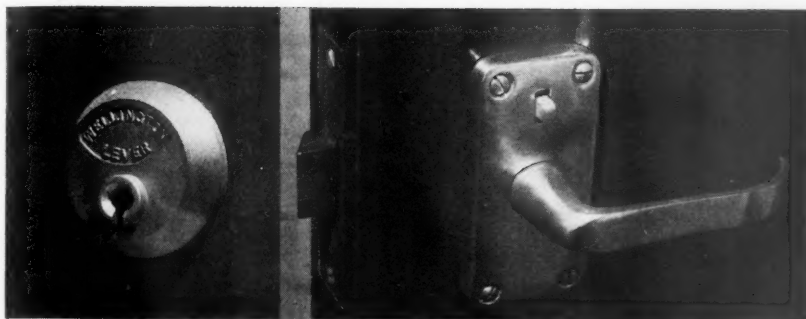

Fig. 12. New type of cylinder lock for entrance doors. This is burglar proof and has an internal lever handle matching the other door furniture
**Door Furniture.** A satin-finished anodised aluminium lever handle with latch and lock sets (Fig. 13) were designed in 1951 and have been in regular use since. The lock set has recently been adapted by means of a locking snib for use on bedroom and bathroom doors to avoid the use of separate bolts. A new kind of burglar-proof cylinder latch (Fig. 12) for entrance doors, with a lever handle inside to match the other internal door furniture, has also recently been developed together with a combined letter-box, door number plate and knocker (Fig. 13).